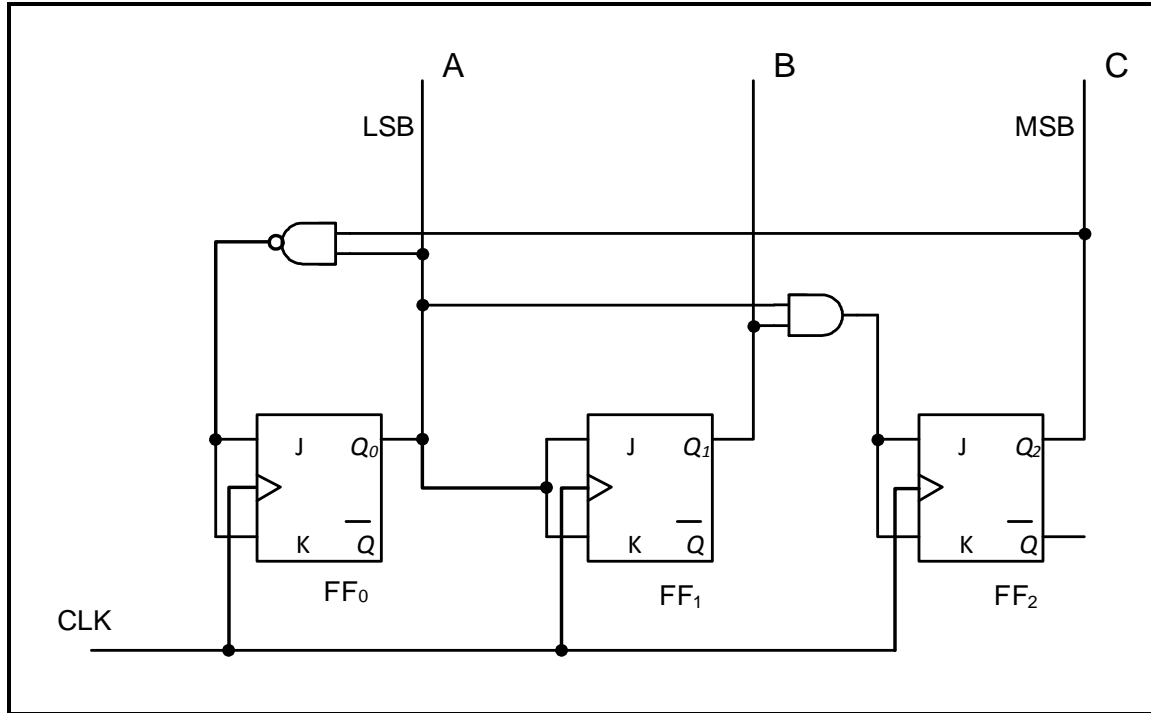

FIGURE 5.9: THREE-BIT SYNCHRONOUS SELF-STOPPING UP-COUNTER THAT STOPS AT 5_{10} (101_2)
5.9 Refer to FIGURE 5.9 below and explain the sequential operation of this counter without the aid of a truth table.